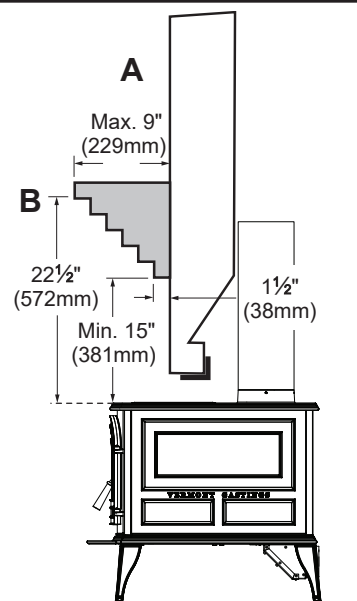

Figure 3.8 - Mantel and trim clearances.
Maximum Mantel depth (A, Figure 3.8) of a combustible mantel is 9" (230 mm). At that depth, the clearance to the stove top (B) must be a minimum of 22-1/2" (572 mm).